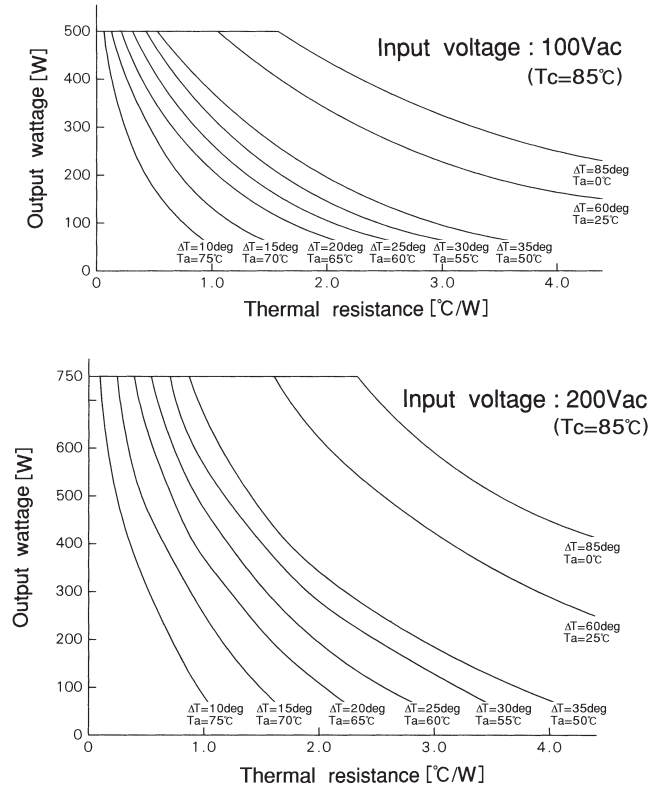

Fig.13.1 Output wattage and the thermal resistance of the heat sink
(1)Fig.13.1 shows the recommended value to use for the thermal resistance of the heat sink in terms of the temperature. It is calculated based on the required output wattage. These values show the thermal resistance of the heat sink with the aluminum base temperature at 85°C. In order to obtain maximum reliability, keep the aluminum base plate temperature low.